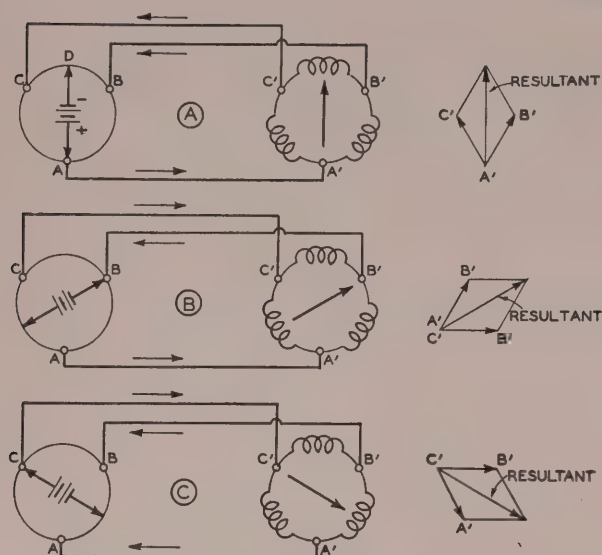

Figure 2. Simplified vector analysis of the manner in which the d.c. selsyn operates.
The three sketches of figure 2 show how these magnetic components combine for three positions of the actuator arm. In figure 2 (A), the current in the actuator resistance will flow from point A up both sides and back into the battery through point D. A certain IR drop will exist across A-B which will cause a current to flow through coil A'-B' producing a magnetic vector shown on the vector diagram. A current of the same magnitude flows through coil A'-C', but due to the physical orientation of its axis, its magnetic component will be in a direction different from A'-B'. No current will flow in the coil C'-B' because the IR drops C-D and B-D are equal and opposite on the actuator resistance. Therefore, the resultant will be the vector sum of the two components A'-C' and A'-B', and it will point in the same direction as the actuator arm.
In figure 2 (B), the actuator arm has been moved, causing different voltages to be applied to all the coils but A'-B'. Zero voltage now exists on coil A'-C' and, therefore, points A' and C' are at the same potential. The two magnetic components A'-B' and C'-B' now combine to form the resultant which has followed the ac-
tuator arm around. The compass needle follows the resultant magnetic field and, hence, the actuator arm. Figure 2 (C) carries the process one step further, and we see that no current flows in coil A'-B' this time, and the compass needle is still in step with the actuator arm making it truly a "self-synchronous" device. As the actuator arm is rotated, the current in a given coil goes through a reversal cycle, and its contribution to the magnetic resultant does likewise.
Figure 2 shows the internal construction of the meter, indicating the manner in which the whole unit is mounted on a bent subpanel and suspended by posts from the front panel of the carrying case. The rather peculiar bent sub-panel is made from a flat sheet of  $\frac{1}{16}$ " metal, bent so as to form a channel for mounting the electrolytic by-pass condensers and also to serve as a shield between the input and output stages of the unit. The bending can be easily accomplished with a couple of small boards and an ordinary vise. The first two amplifier stages are mounted on the small shelf on one side of the condenser channel, and the third stage, diode rectifier, and power supply on the larger shelf at the other side of the channel. The input switch and range selection resistors are mounted on the front panel above the condenser bank.
Figure 2. Side view, showing the shape of the chassis. The "hair" wire at the top of the chassis is the feedback resistor R. At the bottom, behind the power transformer, are the two neon bulbs.